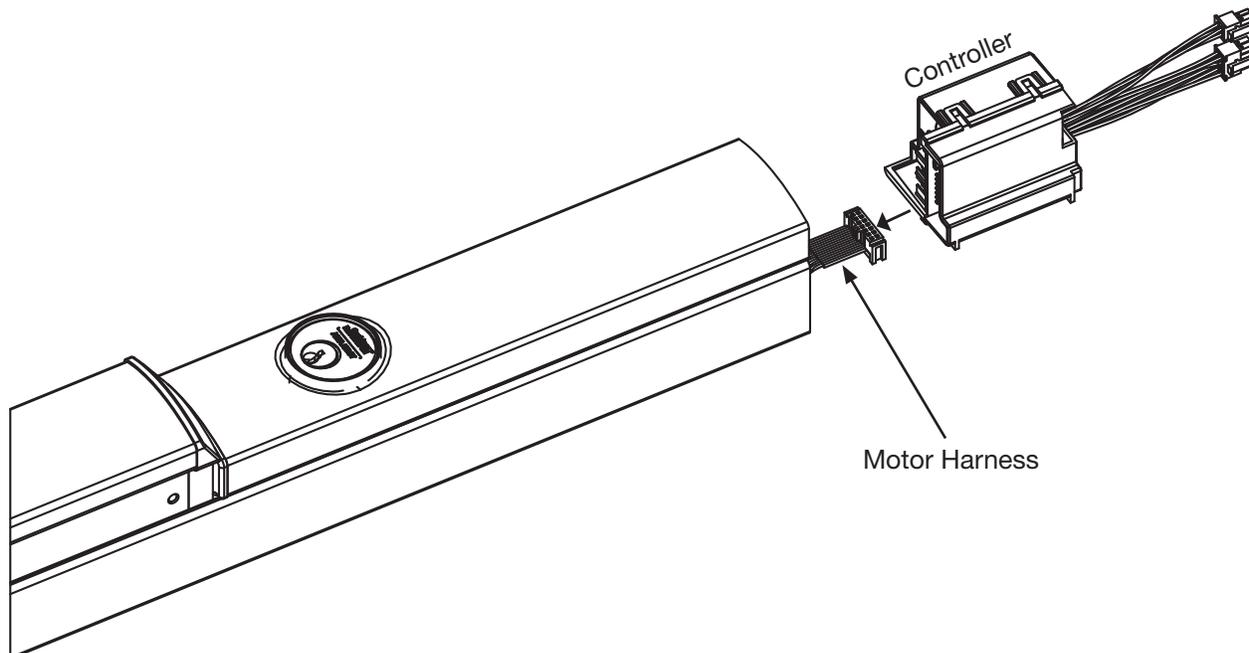

Figure 2b – Connecting Motor Harness
- b. Plug motor harness into controller (see Figure 2b).